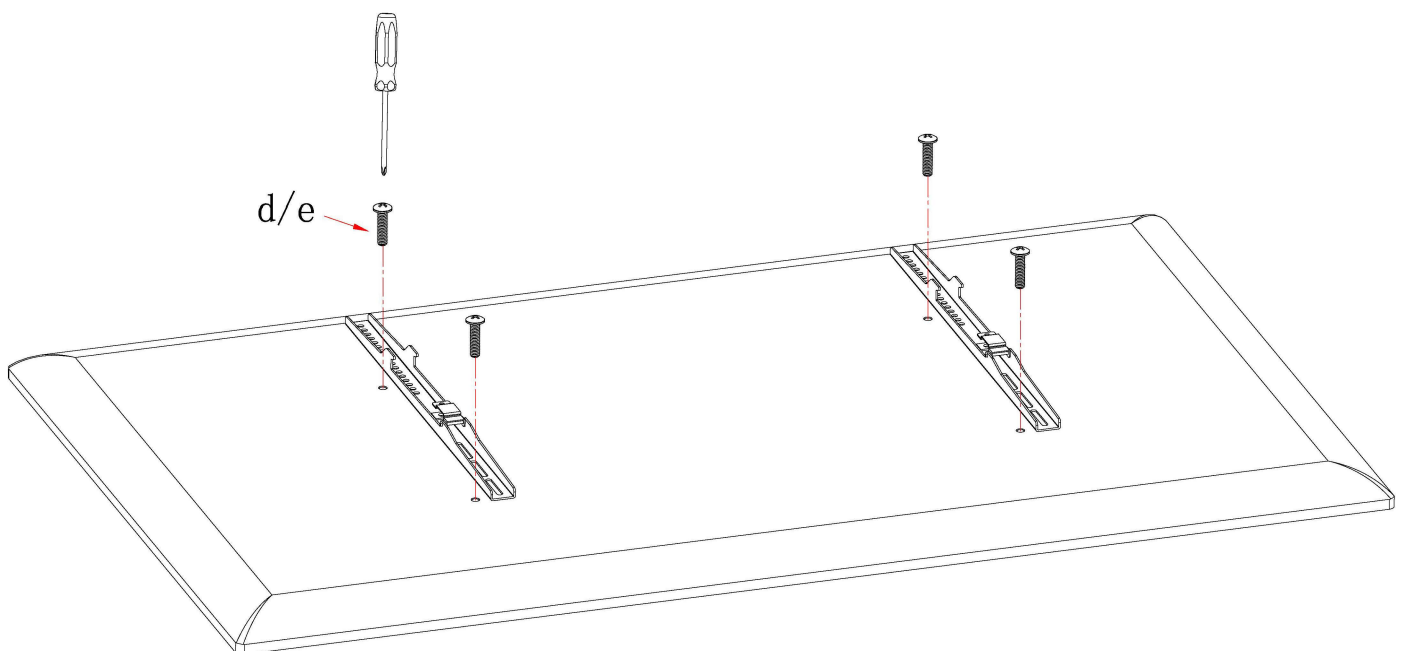

Figure 4
Step 4: Lay the board flat, select the screws compatible with the board's VESA mounts, and connect the VESA bars to the board (see figure 4).